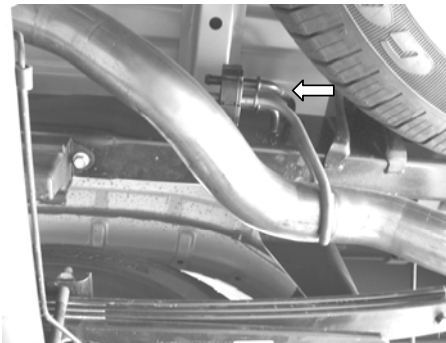

Figure 2
3. Using a muffler stand or an additional person to hold the exhaust system up in place, remove the hangers from the rubber brackets. There are five total. One on the front pipe, one in the front just above the muffler assembly, two above the rear of the muffler assembly and the one shown in figure 2 securing the tail pipe.